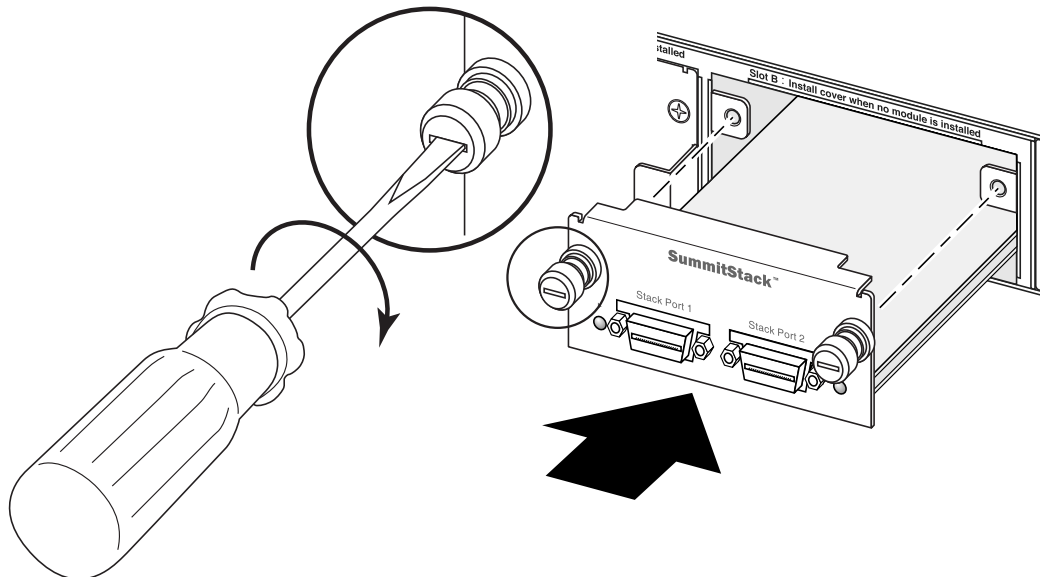

Figure 376: Installing a SummitStack Module
- 3 Carefully slide the replacement module or card into the switch (see Figure 376: Installing a SummitStack Module on page 393).